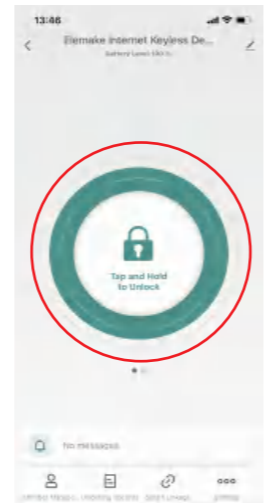

Figure Q-3
(3) Long distance unlocking (Figure Q-3)